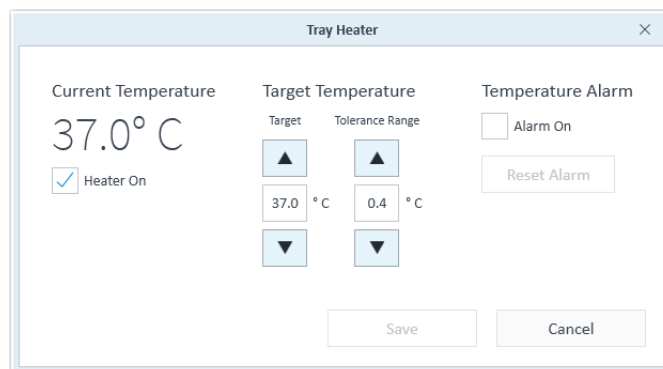

Figure 11 Edit temperature settings (Tray Heater dialog box).
The **Tray Heater** dialog box is displayed. (See **Figure 11**.)
- 1 Select the **Alarm On** check box in the **Tray Temperature** window. (See **Figure 11** on page 33.)